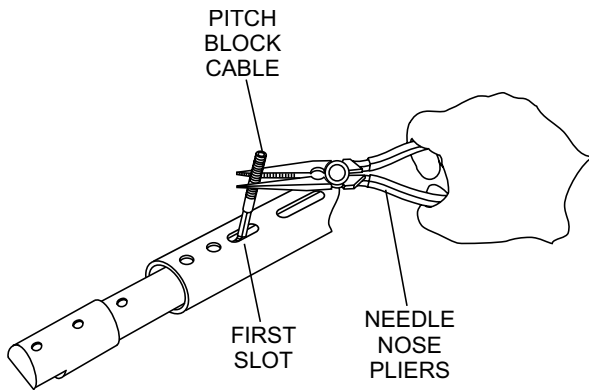

Figure 5. Pulling Out Cable End
- Pull cable end up and out of first elongated slot in the handle using needle-nose pliers. See Figure 5